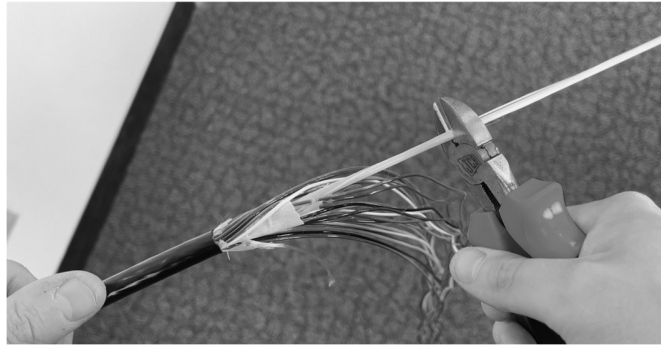

Figure 29 - Cut the central strength member
5.16 Consult the splice closure instructions to determine the length of central strength member that is required for strain relief. With the separated strength member, it is now appropriate to cut it to the required length on both sides. (Figure 29).